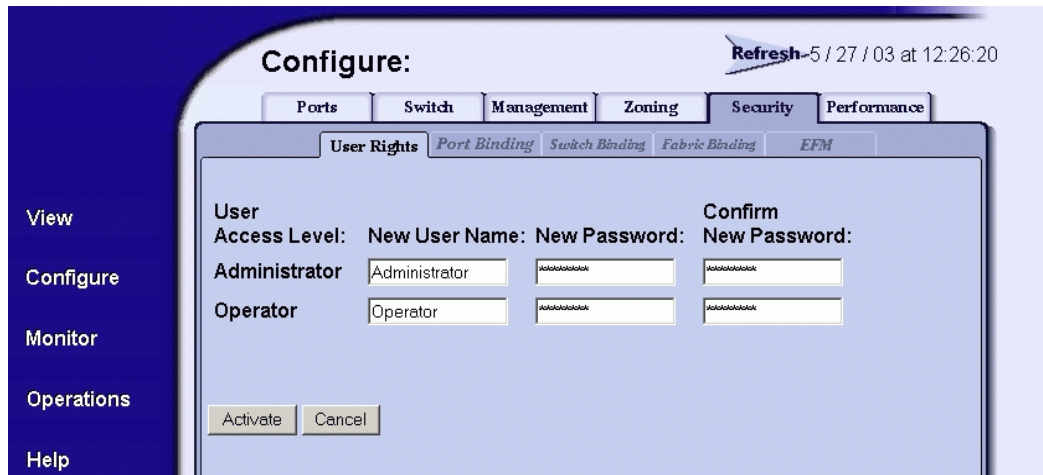

Figure 2-15 Configure Panel (Security Page with User Rights Tab)
1. At the *Configure* panel, click the *Security* tab. The *Security* page displays with the *Authorize Users* tab selected (Figure 2-15).